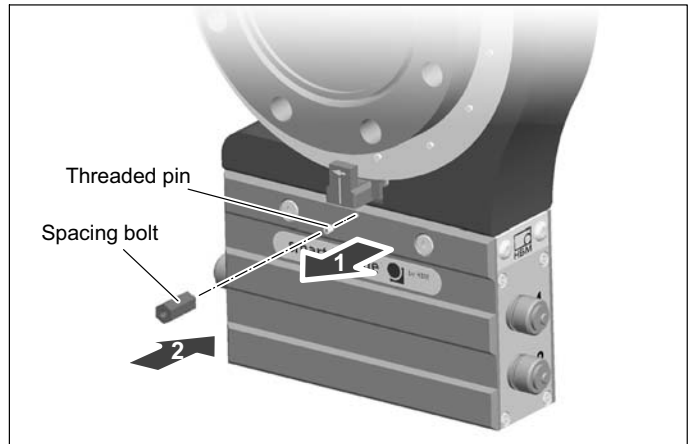

Fig. 8.6 Fit the spacing bolt (for 5 kN · m and 10 kN · m only)
3. *For $5 \text{ kN} \cdot \text{m}$ and $10 \text{ kN} \cdot \text{m}$ measuring ranges only:* remove the threaded pins from the tapped holes on both sides of the stator. Screw the spacing bolt into the tapped hole on the side of the rotational speed sensor (see Fig. 8.6).